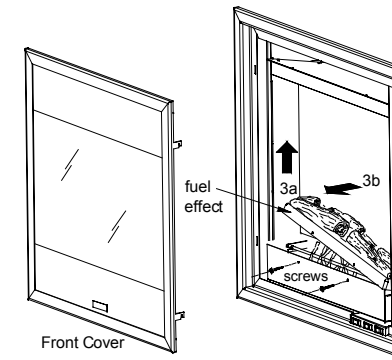

Fig. 9
3. (a) Lift one side of the fuel effect up first and (b) lift out gently, taking care not to damage the logs as they are fragile – see Fig. 9.